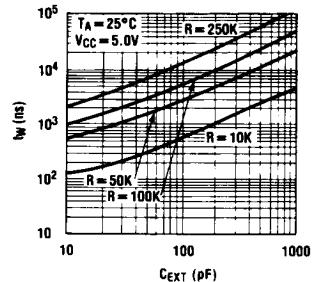

FIGURE 1
- The pulse width is essentially determined by external timing components R_X and C_X . For $C_X < 1000\text{ pF}$ see Figure 1; design curves on T_W as function of timing components value. For $C_X \gg 1000\text{ pF}$ the output is defined as: